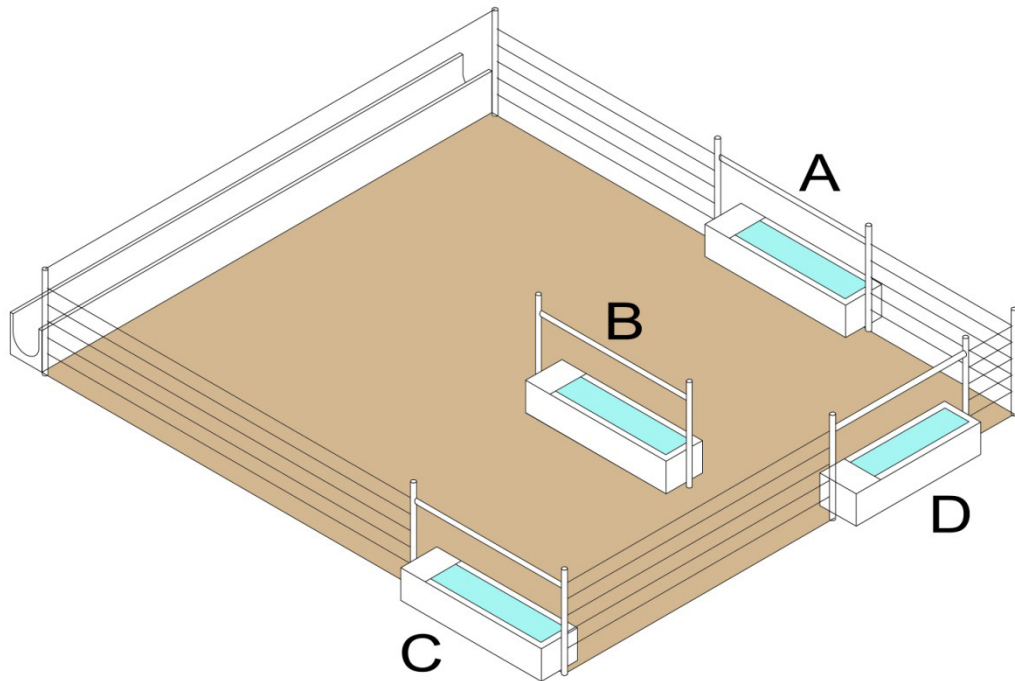

Figure 6 – Optional locations for water troughs.
Troughs should be in-line with the side fences (positions A or C in Figure 6). Troughs on the back fence (D) can block drainage and cause manure to build up. A trough positioned within the pen (B) will allow access from both sides, provided it does not hinder cleaning of the pen. All troughs should be easy to clean around and should not have any areas where manure can collect. A neck rail above the centre will prevent cattle climbing into the water.